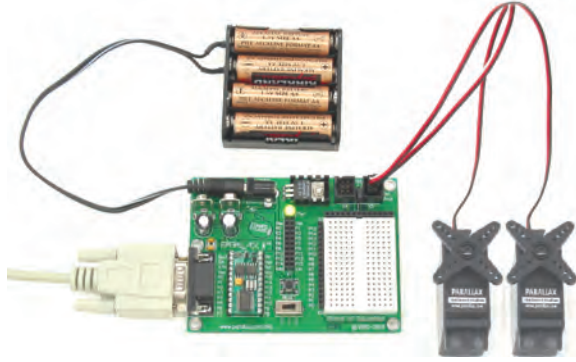

Figure 2-14
- ✓ When you are done assembling the system, it should resemble Figure 2-14 (LED circuits not shown).